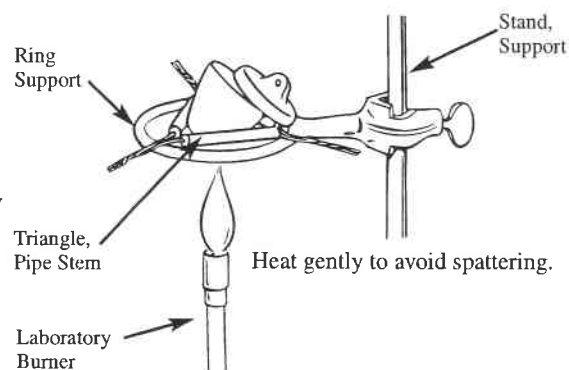

Figure 5.
- Set the crucible at an angle in a triangle held in a ring on a ring stand. Cover the crucible loosely with the crucible cover, and heat very gently. The alum crystals will melt, and the water of hydration will evaporate. It is important that the escaping vapor does not carry any of the anhydrous alum along with it, so be sure that the crystals are heated very gently at first (Figure 5).